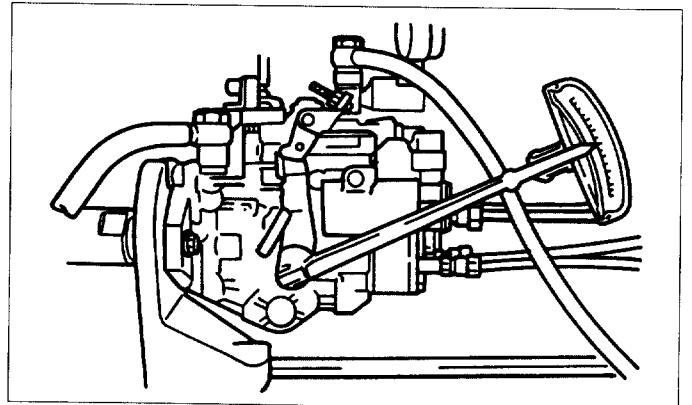

Fig.15-43
- In order to standardize testing methods, apply torque clockwise (0.5kgm) to lever A for 10 seconds, then release torque. (See Fig.15-43)